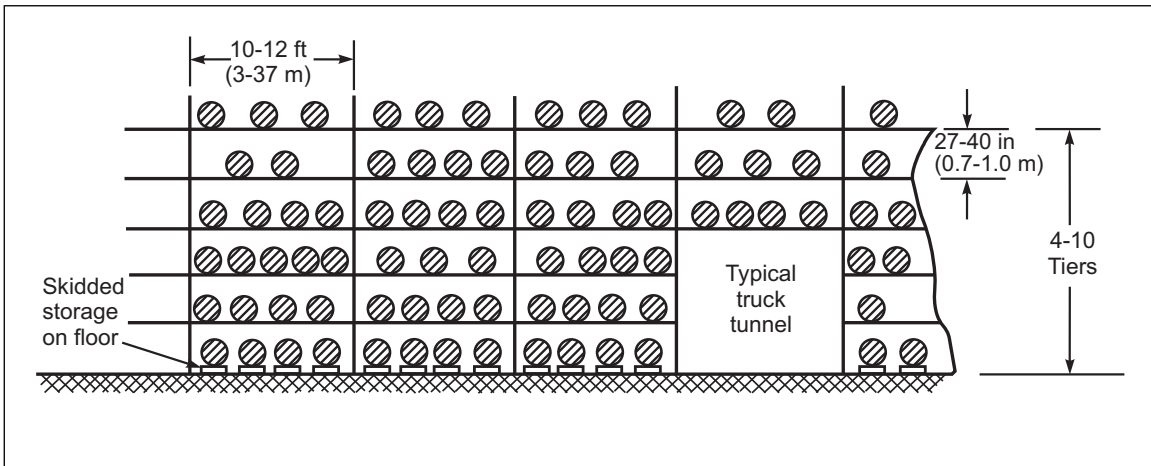
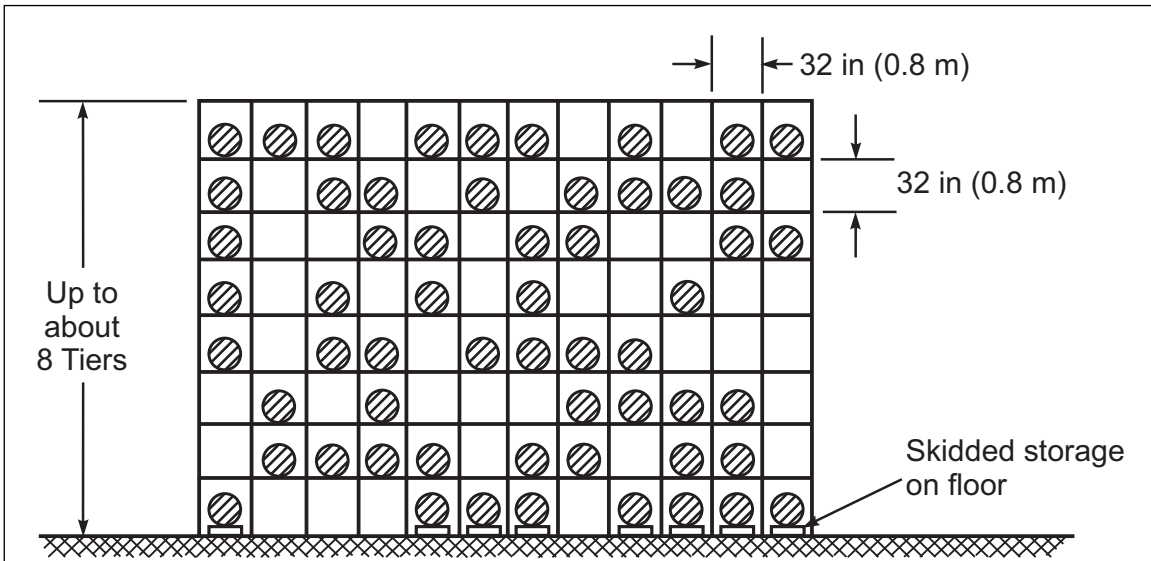
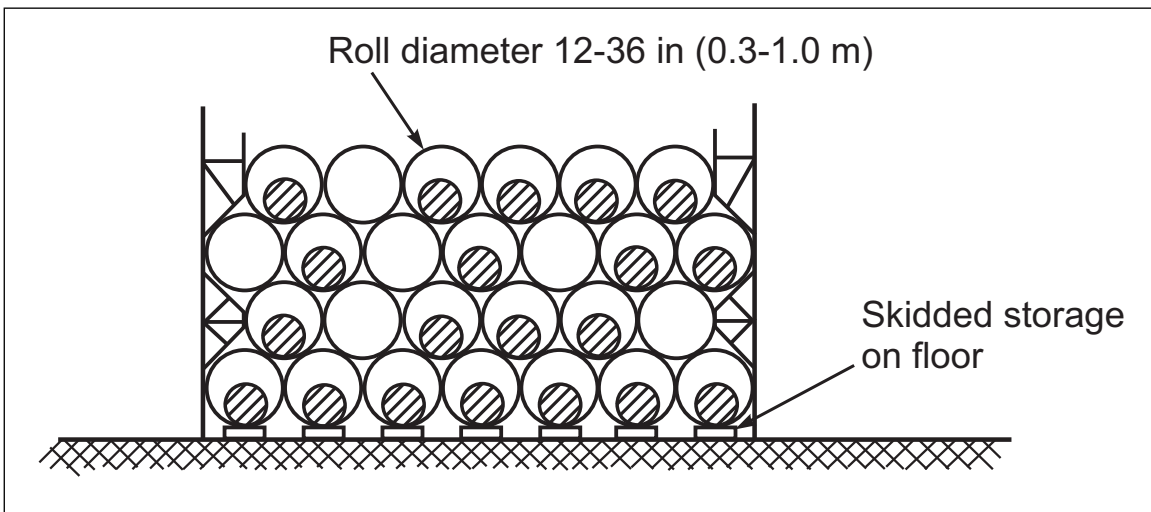

Fig. 2. Typical standard rack for carpet storage
Fig. 3. Typical cubicle rack for carpet storage
Fig. 4. Typical tube storage of carpets
3.1.2.1 Finished Carpets. Although small amounts of carpet rolls and carpet pieces (door mats, runner carpet, etc.) in cartons are stored on-floor, palletized, or on racks, rolls of finished carpets are generally stored in standard carpet racks (Fig. 2), cubicle racks (Fig. 3), or in specially designed paperboard tubes (Fig. 4).
3.1.2.2 Rack Storage. Standard racks (Fig. 2) may be constructed of steel or wood frames with slatted, solid, or metal decking shelves. They have a rack-tier height of 27 to 40 in. (586 to 1016 mm), but usually are 30 to 36 in. (762 to 914 mm) high. These carpet racks have between 4 and 10 tiers and are 9 to 27 ft (2.7 to 8.2 m) high. The rack length may extend several hundred feet, with vertical supports located every 10 to 12 ft (3.0 to 3.7 m). Normally there are transverse flue spaces at these vertical supports. The rack width is usually 12 to 15 ft (3.7 to 4.6 m) and often racks are placed back to back.
Cubicle racks (Fig. 3) have a series of cubicles approximately 32×32 in. (813×813 mm) high formed by vertical and horizontal rack members. One or two boards (6 to 12 in. [152 to 305 mm] wide) are placed on the lower horizontal rack member of each cubicle. One carpet roll is placed in each cubicle on the board(s), thus separating each roll from adjacent ones by 8 to 12 in. (203 to 305 mm) spaces.
3.1.2.3 Tube Storage. Tube storage of carpets (Fig. 4) consists of paperboard tubes primarily nested on floor on special racks. Carpet rolls are placed in these tubes. Generally, the diameter of the tube varies from 12 to 36 in. (305 to 914 mm), depending on the diameter of the roll handled. The tube thickness is designed to hold the carpets and is about $\frac{5}{8}$ in. (16 mm). The tubes may have a wax coating on the outside.